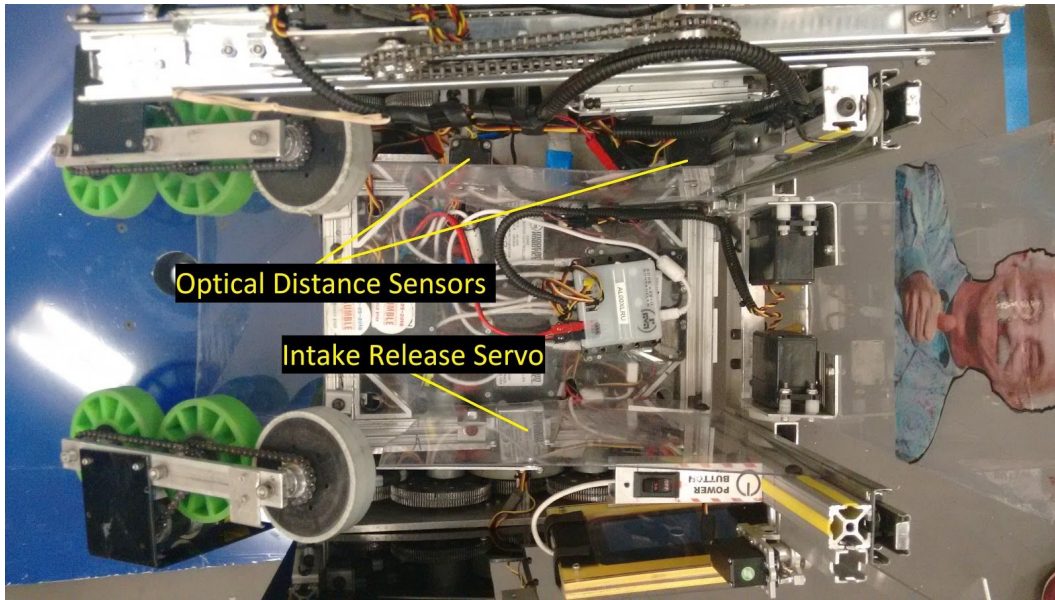

Figure 1-7
- Figure 1-7 shows the position of the **optical distance sensors**